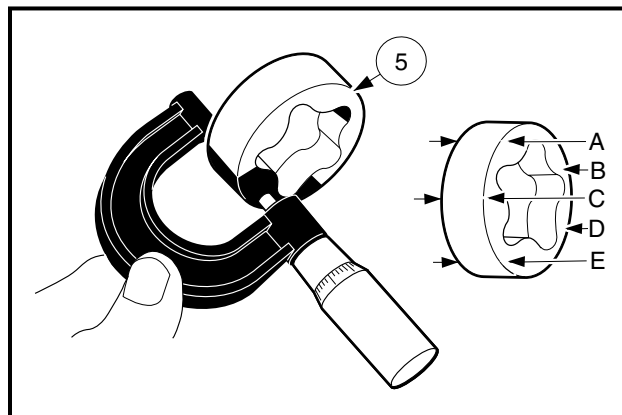

Figure 13-68 Measure Outer Rotor Thickness
- 4.4. Using a micrometer, measure the thickness of the outer rotor at several points (**Figure 13-68, Page 13-34**).